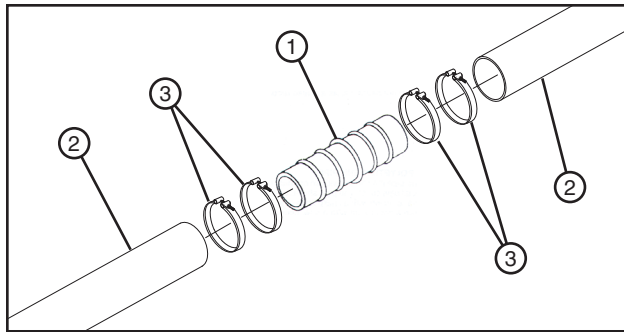

Figure 98-1 1. Rigid Mender
1. Place the rigid mender between the two sections of hose. See figure 98-1.
2. Insert the mender halfway into the first hose section. See figure 98-1.
3. Slide the other hose section into the mender. See figure 98-1.
4. Secure both hoses onto rigid mender with band clamps. See figure 98-1.